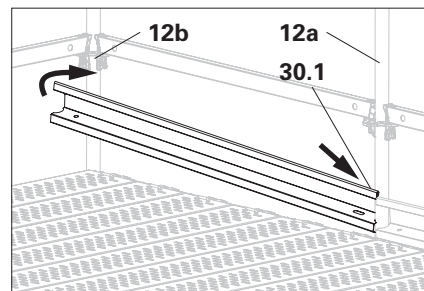
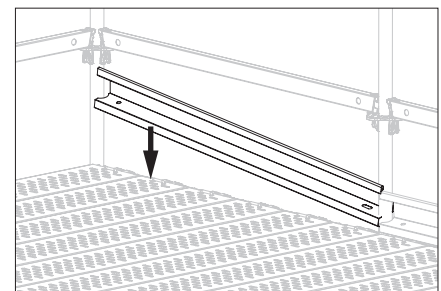

Fig. A5.02a
Fig. A5.02b
- The larger tube section (30.1) is on the right. (Fig. A5.02a)
3. From the inner side of the scaffold, insert Toe Board UPY (30) at the right-hand tube (12a) first.
5. Lower the toe board onto the deck. (Fig. A5.02b)